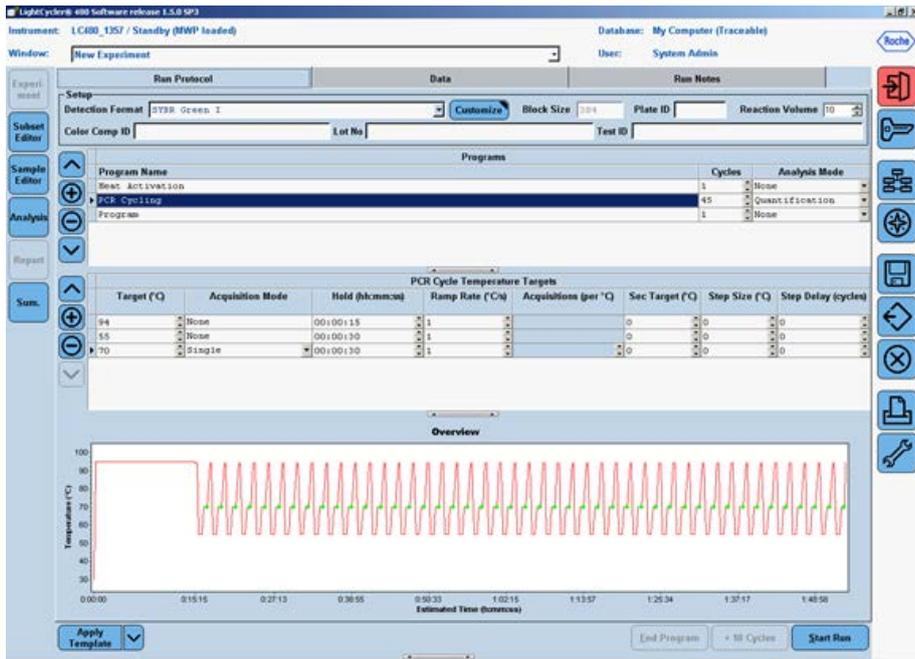

Figure 4. Setup of the second program — PCR Cycling.
- Click to change the "Program Name" of the 2nd program to "PCR Cycling". Change the number of Cycles to "45"[†] and change the Analysis Mode to "Quantification". In the "Temperature Targets" section, click the  button twice to add two more temperature target lines. Enter the values for the following parameters (Figure 4):